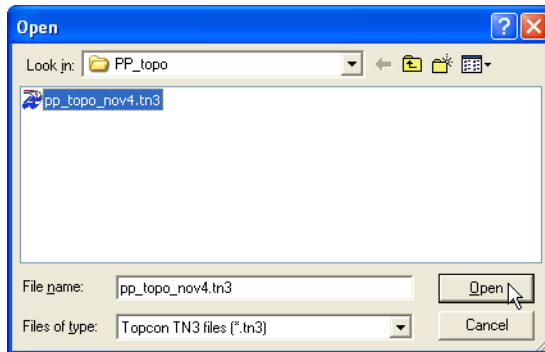

Figure 7-15. Select Surface to Compare
2. On the **Open** dialog box, navigate to the folder in which the file resides, select the *Files of type* from the drop down list (either TN3 files, PL3 files, or RD3 files), select the desired file and click **OK** (Figure 7-15).